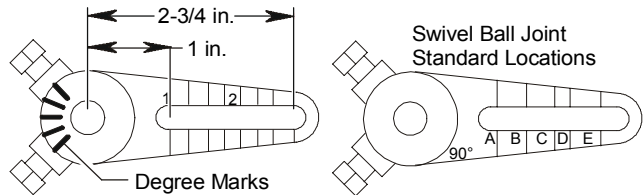

Figure 8: Crank Arm Details
- 8. The swivel ball joint is factory assembled to the crank arm with a radius of 1-13/32 inches to provide 90° rotation with a 2-inch stroke. When looking at the crank arm, the ball joint will be approximately in the “B” position, shown in Figure 8.